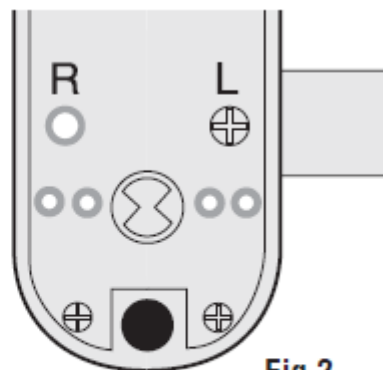

Fig 2
- Replace blue handing screw in position 'L' (Fig 2).